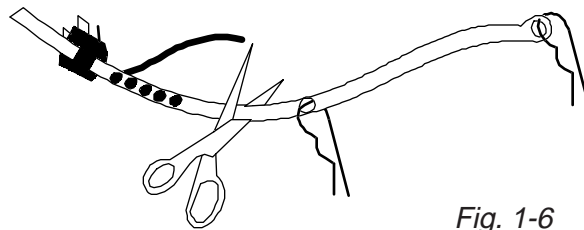

Fig. 1-6
6. Cut the shipping strap at the words "CUT HERE" and slide it off the power supply plug. (Fig. 1-6)